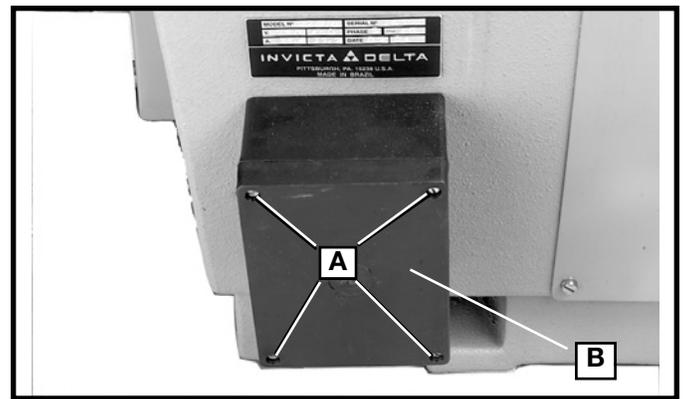

Fig. 4
1. Remove the four screws, one of which is shown at (A) Fig. 4, and remove cover (B).
2. Insert power line through entrance hole (E) and connect the three power lines to terminals L1, L2 and L3 (shown at C). The green ground wire should be connected to the ground terminal (J).
3. Replace cover (B) Fig. 4.
**IMPORTANT:** If after the machine is in operation, the cutterhead turns in the wrong direction, interchange any two of the three power lines (C) that are connected to terminals L1, L2 and L3.